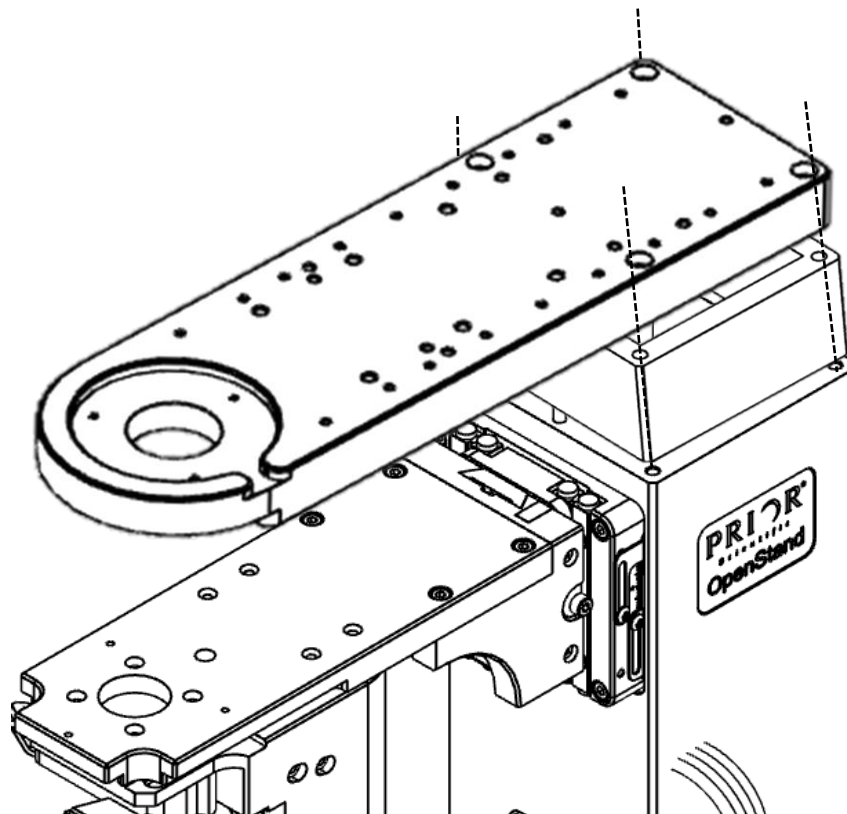

Figure 4: Fitting the spacer with the binocular arm
2. Align the spacer on top of the frame and place the binocular arm on top of the spacer so that the dowel pins are inserted properly. Screw the spacer and binocular arm to the frame using T260 (M5 x 70mm) screws (as shown in Fig 4).